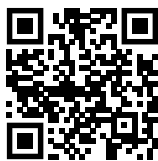

Fig. 62
- ▶ Aprire la Liebherr SmartMonitoring Dashboard. (vedere Fig. 62)